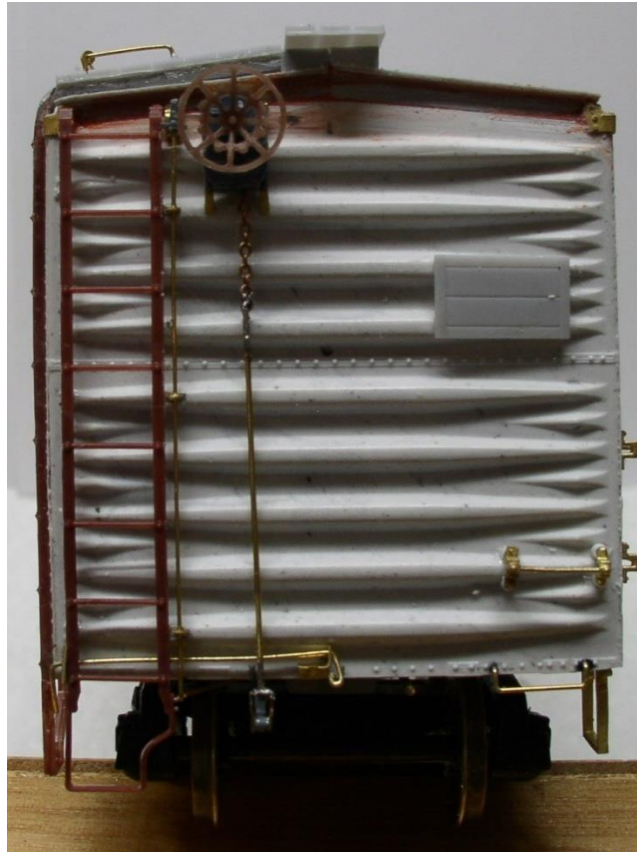

Figure E11
15. The Grandt Line Long Rod and Clevis is not long enough. Fold the etched clevis into a 'U' and attach to the end of 0.020" rod. Check the fit on the Bell Crank and check to see how long the rod should be to attach to the chain hanging from the Gear Housing. We found it to be 6.5 scale feet. Attach the rod to the chain. Then attach the clevis to the Bell Crank. See Figure E11.